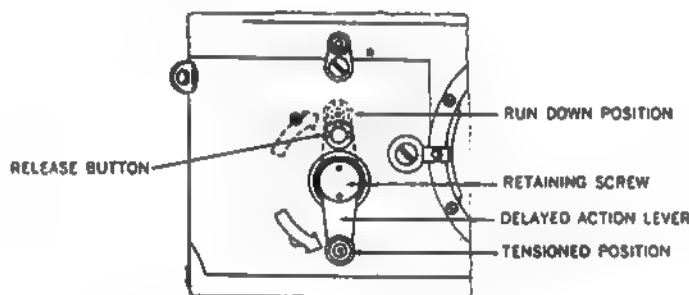

Figure 4-19. Delayed Action Lever, Tensioned Position.
(Fig. 4-19, 4-20, 28, 29)
c. Adjusting (fig. 4-19). After the delayed action clockwork has been installed, and the camera inner housing inserted in, and secured to the outer housing, wind the clockwork spring as follows:
- (1) Tension the clockwork spring by turning the delayed action lever counterclockwise as far as it will go (fig. 4-19).
- (2) Loosen the left-hand-threaded retaining screw with tool 42-253.01-597W2. Lift the lever, rotate it clockwise to the vertical position, and immediately tighten the retaining screw.
- (3) Fully tension the clockwork spring by repeating the procedures in (1) and (2) above two or three times.
- (4) Set the camera shutter speed dial to "B", wind the shutter, and depress the delayed action release button. The delayed action clockwork should not release the shutter. If the clockwork does trip the shutter, increase tension of the clockwork spring as in (1), (2) and (3) above.
- (5) Hold the delayed action lever in its vertical (run-off) position and loosen the retaining screw, permitting the clockwork to operate.
- (6) Tighten the retaining screw immediately after the second shutter curtain has been released.